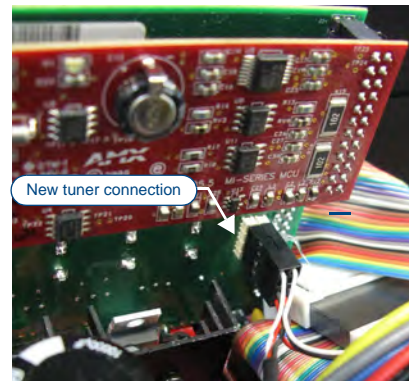

FIG. 15 Connection of the cable to the left-side pins on the back of the interface board.
7. On units with green Interface Boards only: Connect the supplied cable from the tuner to the Interface Board as shown in FIG. 15.